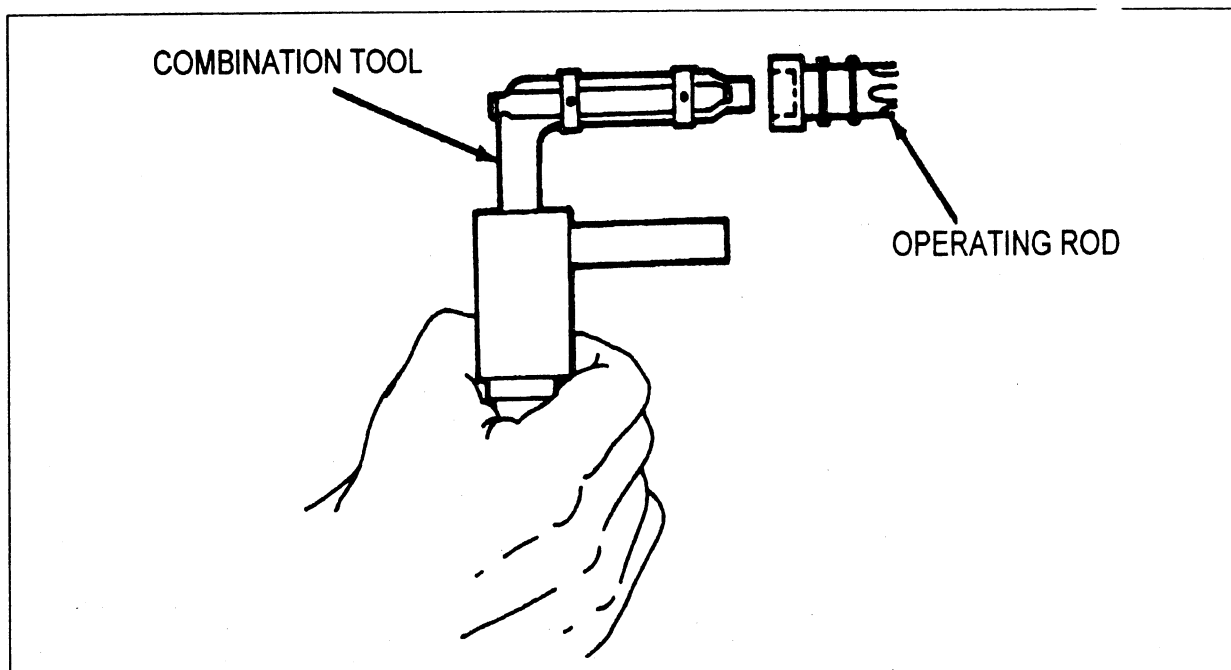

Fig 1-28. Cleaning the bottom of piston cavity.
- (7) Insert the screwdriver end of the combination tool into the cavity of the piston end of the operating rod to remove carbon residue in the bottom of the cavity (see fig 1-28).